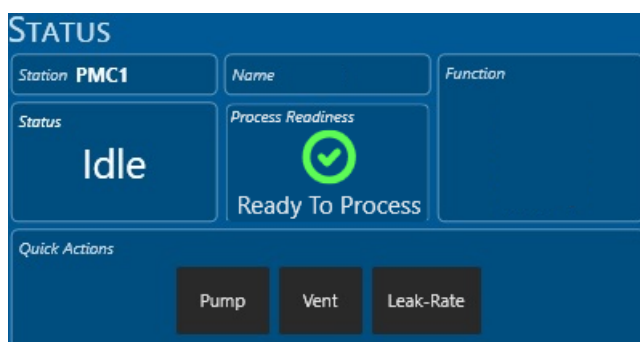
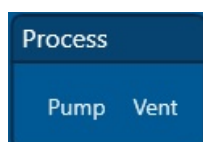

Figure 4-26 Status panel (process module page)
Figure 4-27 Quick Actions panel (Batch View page)
- 3 Click on **Pump** in the Status panel on the process module page (see Figure 4-26) or the Quick Actions panel on the Batch View page (see Figure 4-27).